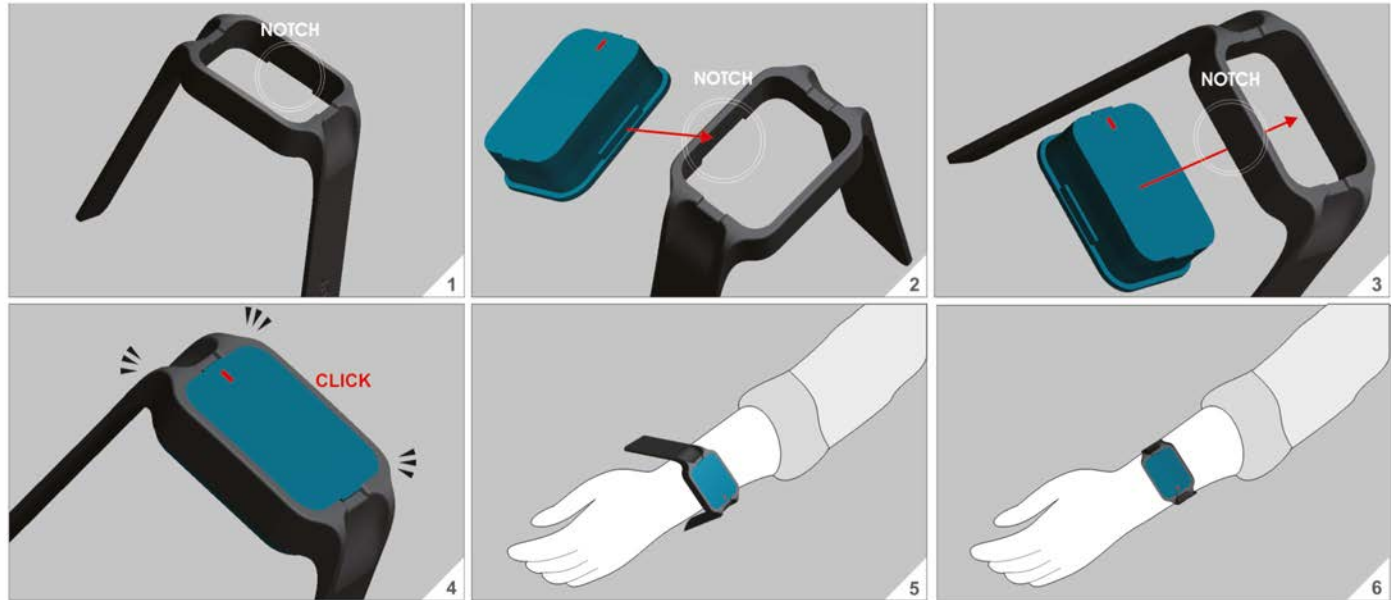

Figure 13. Instructions on mounting PDMonitor® Monitoring Devices on wrists using the wristband
- Secure the Monitoring Devices to the wristband as shown in Figure 13